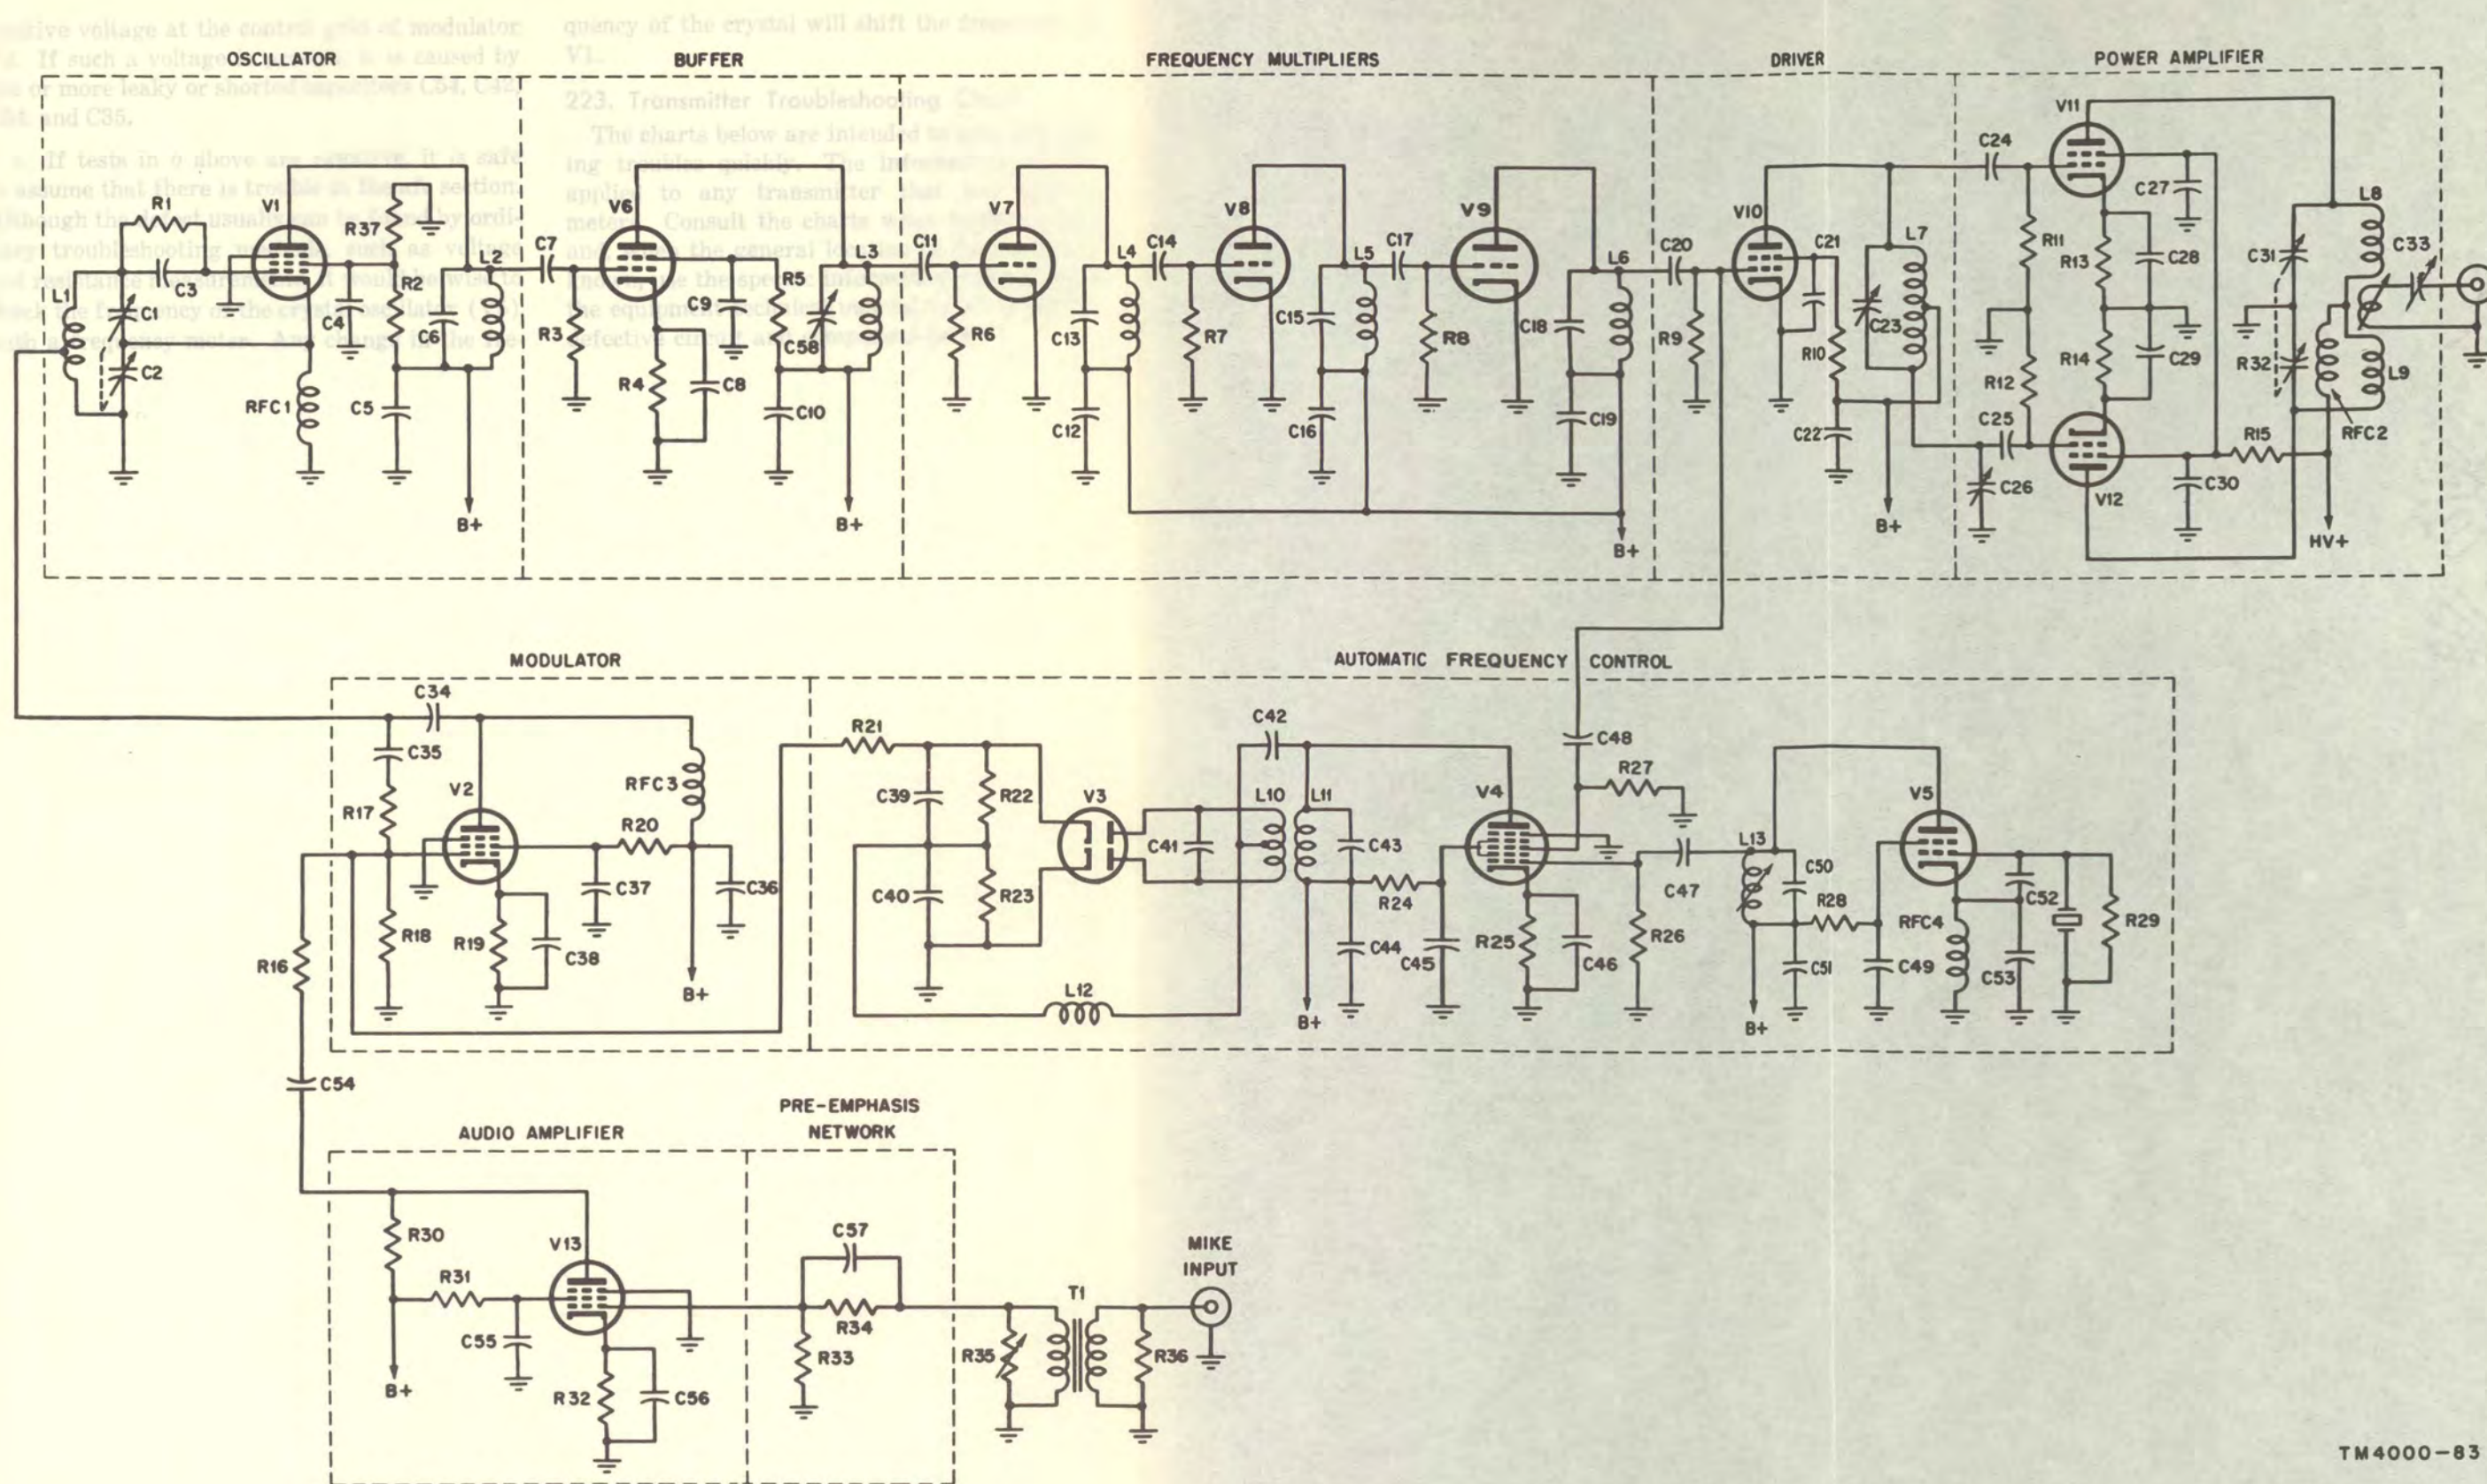

Figure 78. Fm transmitter, schematic diagram.
c. The schematic diagram (fig. 78) is of the same transmitter. Many of the circuits are the same as those in an am transmitter. The power supply has not been included in the diagram because it is the same as would be used for an am transmitter.
If there is difficulty in keeping the driver or power amplifier stages tuned properly, or if receiving station report carrier drift, the oscillator is probably drifting. An afc circuit is incorporated in the same transmitter (fig. 78) to keep the oscillator frequency stable; therefore, the most likely source of trouble would be in the afc section. It is possible, however, that trouble in